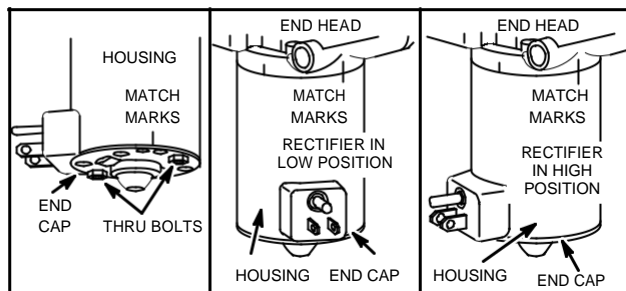

Fig. 669 – MATCH MARKS
**NOTE:** End head, end cap and housing must be placed in the same position as when removed, or interference may result, Fig. 669.
7. Align end cap and end head match marks correctly, Fig. 669.